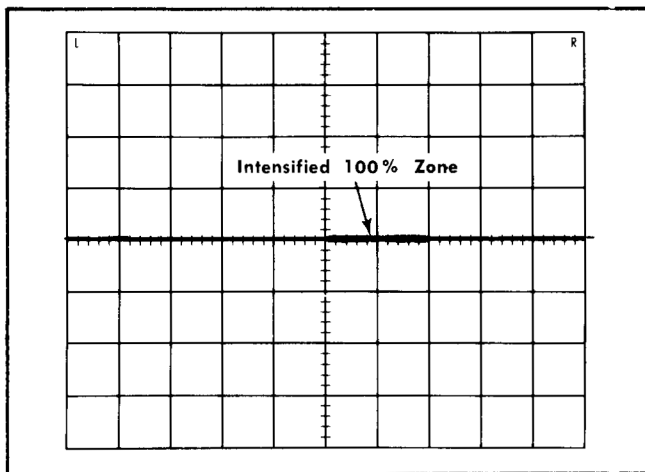

Fig. 5-4. Typical CRT display showing Intensity modulation.
- Check—Intensity modulation of the trace (Fig. 5-4).